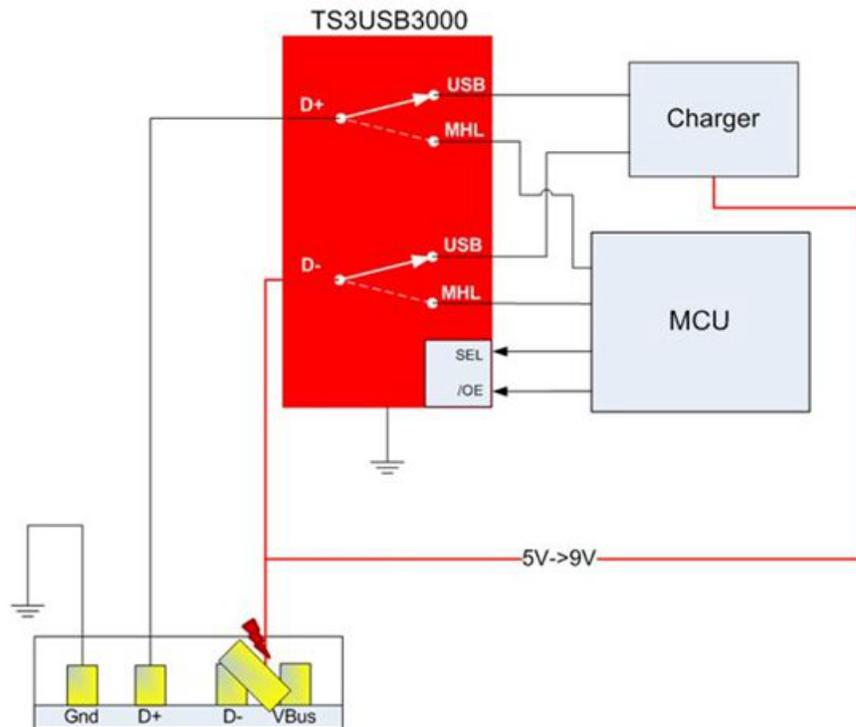

Figure 4. The TS3USB3000 Protects the MCU at 9V When a Short Happens
The TS3USB3000 USB switch protects the MCU at 9V while enabling switching between the MCU and the charger/universal asynchronous receiver/transmitter (UART), as shown in Figure 4. After connecting a charger to the USB port, the MCU will detect the attached charger and pull the output enable (OE) pin high to disable the switches. The MCU will communicate to the charger that it can negotiate for a faster charging mode with VBUS at 9V, also shown in Figure 4. The TS3USB3000 is now in a low-power state, with the switches disabled and can protect the MCU.